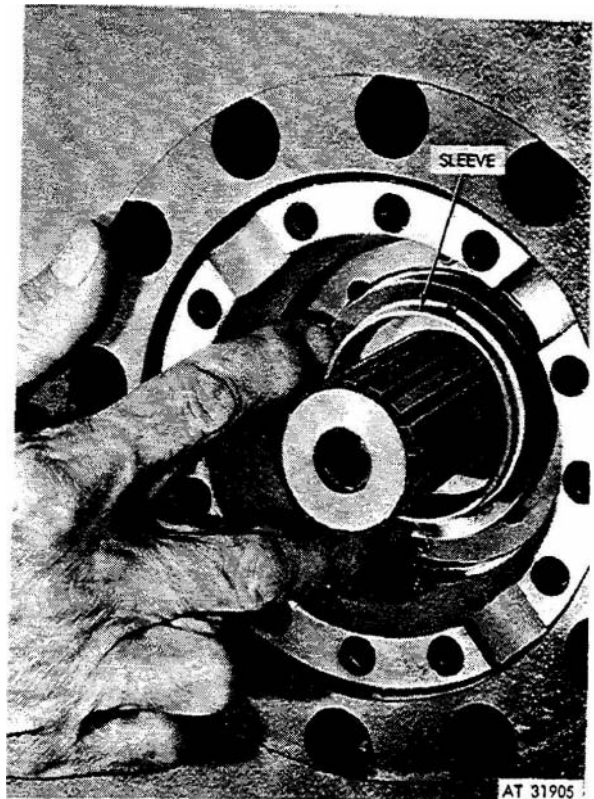

Figure 3-109. Inserting drive springs using sleeve (11660113).
(11) Slide drive springs (8, fig 3-99) and sleeve (5, fig 3-102) on alignment arbor (4) and position springs in bore of housing (18, fig 3-99) as shown in figure 3-109.